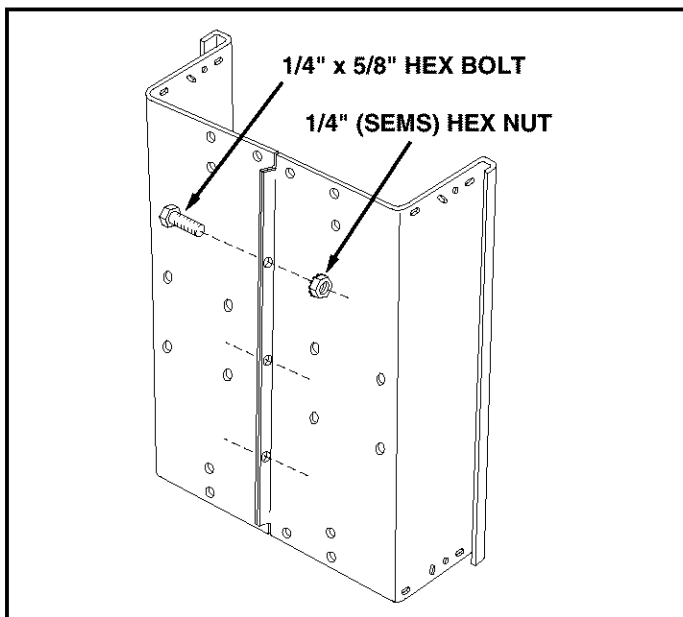

FIGURE 1
- Place cart body halves upright on a smooth level surface such as a garage floor or a paved driveway. See figure 1.
- Assemble cart body halves together using three 1/4" x 5/8" hex bolts and 1/4" (SEMS) hex nuts as shown in figure 1. **Do not tighten yet.**